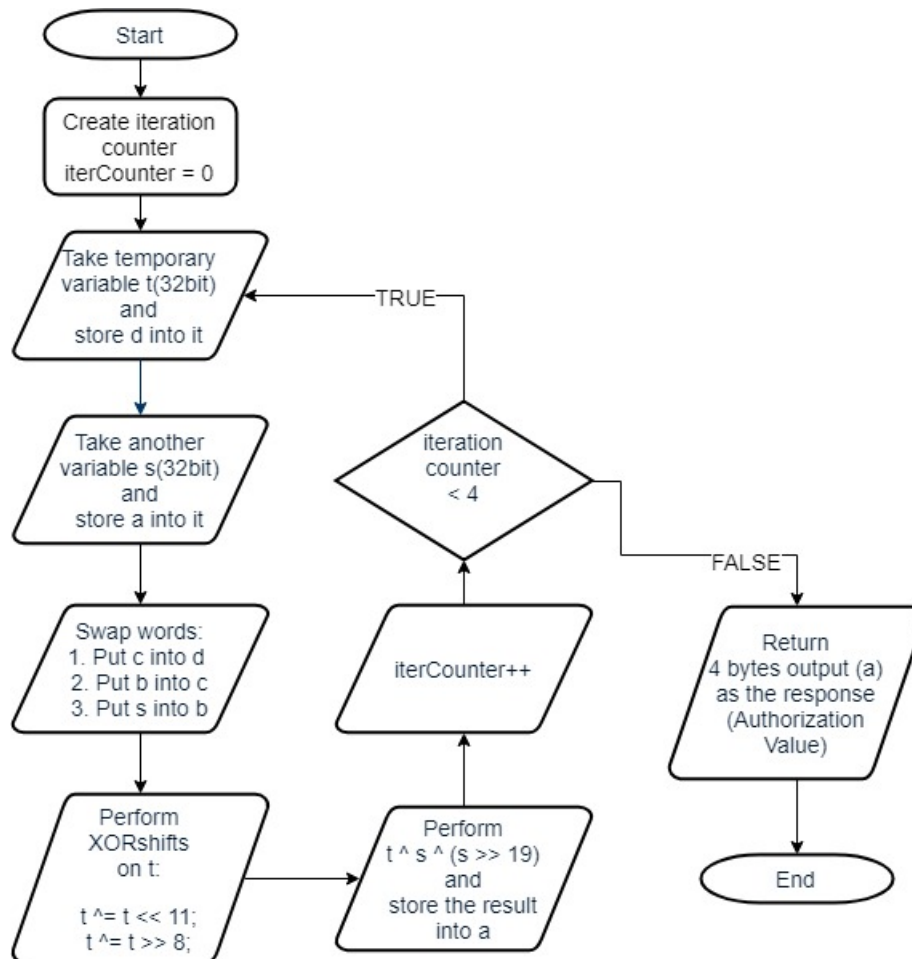

Figure 6.2. Four iterations of the XORShift128 algorithm
- ▶ Apply the XORShift128 algorithm four times. The initial state of the algorithm must be set as the 16 bytes output of the XOR operation (see the previous step). The flowchart of four iterations of the XORShift128 algorithm is shown in Figure 6.2, “Four iterations of the XORShift128 algorithm”. Each iteration of the XORShift128 algorithm is implemented according to the example implementation described on <https://en.wikipedia.org/wiki/Xorshift>.